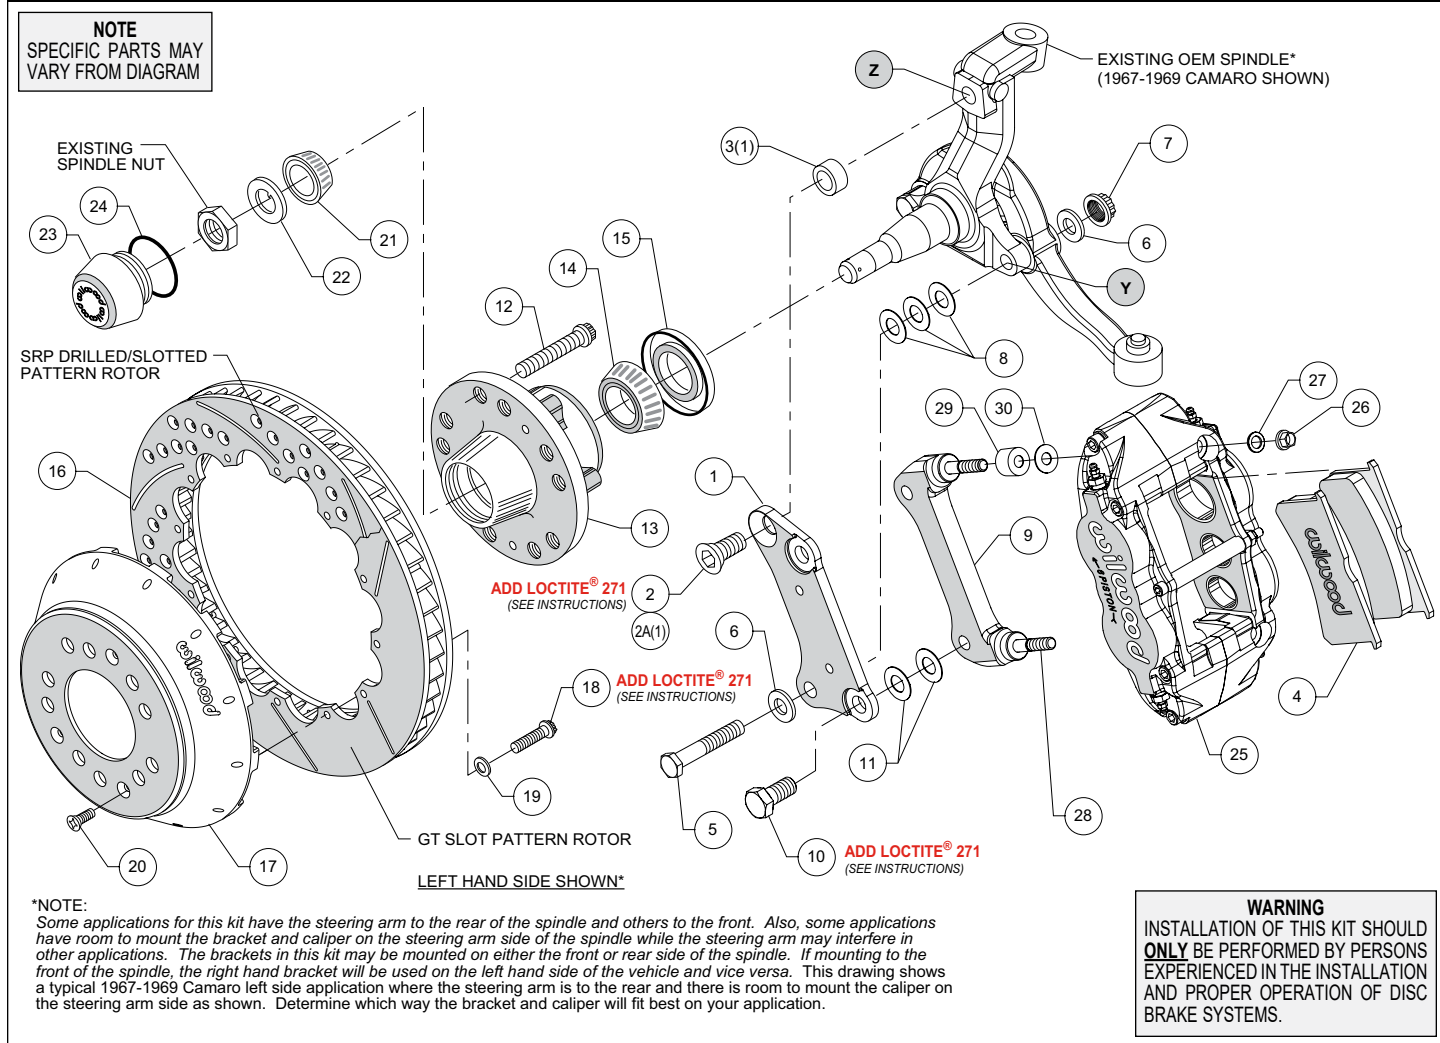
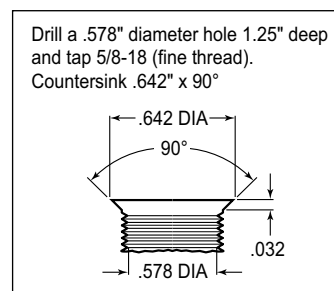
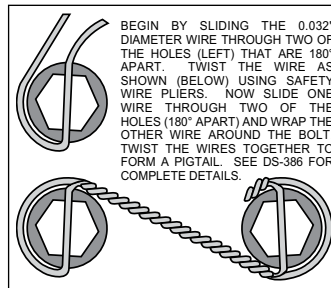

Figure 1. Typical Installation Configuration
Figure 3. Drill and Tap Detail
Figure 4. Safety Wire Diagram
**NOTE:** Numbers in parenthesis refer to the parts list and Figure 1 on the preceding pages.
**NOTE:** Some applications for this kit have the steering arm to the rear of the spindle and others to the front. Also, some applications have room to mount the bracket and caliper on the steering arm side of the spindle while the steering arm may interfere in other applications. The brackets in this kit may be mounted on either the front or rear side of the spindle. If mounting to the front of the spindle, the right hand bracket will be used on the left hand side of the vehicle and vice versa. Figure 1 shows a typical 1967-1969 Camaro left side application where the steering arm is to the rear and there is room to mount the caliper on the steering arm side as shown. Determine which way the bracket and caliper will fit best on your application.
**NOTE:** Some spindles in this year range may require the following modifications (reference Figure 1 and Figure 3): Top anchor pin hole (Z) must be drilled and tapped to the dimensions as outlined in Figure 3. The lower bolt hole (Y) in the spindle used to mount the new caliper bracket, and the mating steering arm hole, must be enlarged to .50" by drilling. It is recommended these modifications be performed by a qualified machinist.
Orient the rotor (16) and the hat (17) as shown in Figure 1 and Photo 3. Attach rotor to hat using bolts (18) and washers (19). Apply red *Loctite*® 271 to the bolt threads and torque to 155 in-lb using a criss-cross pattern. For an added measure of security, the bolts may be safety wired using standard 0.032 inch diameter stainless steel safety wire as shown in Figure 4. Please refer to Wilwood's data sheet DS-386 (available at [www.wilwood.com/Pdf/DataSheets/ds386.pdf](http://www.wilwood.com/Pdf/DataSheets/ds386.pdf)) for complete safety wire installation instructions.
•**Disc Brake Spindle Application Only:** Follow the instructions below, but instead use bolt (2A), and spacer (3) in the upper bolt hole location, Figure 1.
•Orient the flat bracket (1) as shown in Figure 1 and Photo 4, and install using bottom bolt (5), washers (6), and nut (7), Figure 1. Initially place three .032" thick shims (8) between the bracket and spindle. Install the upper bolt (2 or 2A). Temporarily tighten bolts. **NOTE:** *The bracket must fit squarely against the mounting surfaces on the spindle.* Inspect for interference from casting irregularities, machining ridges, burrs, etc. Temporarily install the new hub, hat and rotor assembly. Check that the bracket is aligned parallel to the rotor, Photo 5. If not, adjust by adding or subtracting shims (8) on the lower bolt between the bracket and spindle, Figure 1. Once the bracket alignment is correct, remove the upper bolt (2 or 2A), apply red *Loctite*® 271 to the bolt threads, and torque to 120 ft-lb. Torque the lower lock nut to 65 ft-lb.
•The radial mount caliper bracket (9) should initially be installed with clean, dry threads on the mounting bolts. Orient the bracket as shown in Figure 1 and Photo 6, and install using bolts (10). Initially place two .029 thick shims (11) on each bolt between the two brackets, Figure 1. Temporarily tighten the mounting bolts. Later, after the caliper alignment has been checked, the mount bolts will be secured using red *Loctite*® 271.
•Pack the small outer bearing cone (21) with high temperature disc brake bearing grease and install into hub (13). Final install the hub assembly onto the spindle. Secure using spindle washer (22) and OEM spindle nut, Photo 7. Adjust bearings per OEM specifications. Install saved OEM nut lock (if any) and a new cotter pin (not included).
•Screw dust cap (23) into hub (13). Friction created by the o-ring (24) on the dust cap keeps it from unscrewing. **NOTE:** *The O.D. of the existing OEM spindle washer may be larger than the I.D. of the dust cap not allowing it to seat against the hub face. Therefore, use the spindle washer (22) supplied with the kit instead of the OEM washer.*
•Final install the rotor (16 and 17) assembly onto the hub (13), taking care to align the small countersunk holes in the hat with the small threaded holes in the hub. **NOTE:** *The hat must fit flush against the hub face or excessive rotor run out may result.* Install three flat head screws (20) through the small holes in the hat (17), Photo 8, and torque to 85 in-lb.
•**NOTE:** *This kit contains distinct right and left hand calipers that must be mounted in a specific direction, as described below.* Initially place spacer (29) and one .035" thick shim (30) on each stud (28) between the caliper and the bracket, as shown in Figure 1 and Photo 9. Mount the caliper (25) onto the bracket (9) using lock nuts (26) and washers (27), Figure 1. Ensure that the caliper is mounted so the largest pistons are at the rotor exit end of the caliper, in relation to the direction of rotor rotation. Temporarily tighten the lock nuts. The rotor should be centered in the caliper, Photo 10. If not, adjust by adding or subtracting shims (11) between the flat bracket (1) and the caliper bracket (9). Always use the same amount of shims on each of the two mounting bolts. Once the caliper alignment is correct, remove the bracket mounting bolts one at a time, apply red *Loctite*® 271 to the threads, and torque to 77 ft-lb.